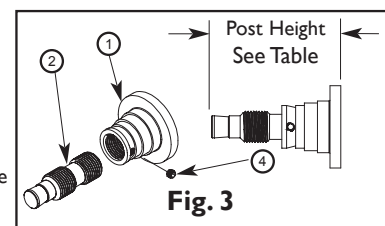

Fig. 3
4. Thread POSTS (2) into FLANGES (1). Position POSTS (2), per Table below, at the proper height from mounting surface. Secure into place by tightening SETSCREWS (4). (See Fig. 3)